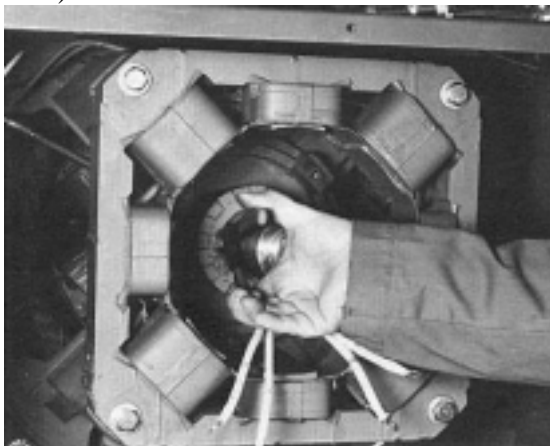

Figure 6-17
2. Remove the snap ring that holds the PMG rotor in place on the shaft. (Figure 6-17 and 6-18.)